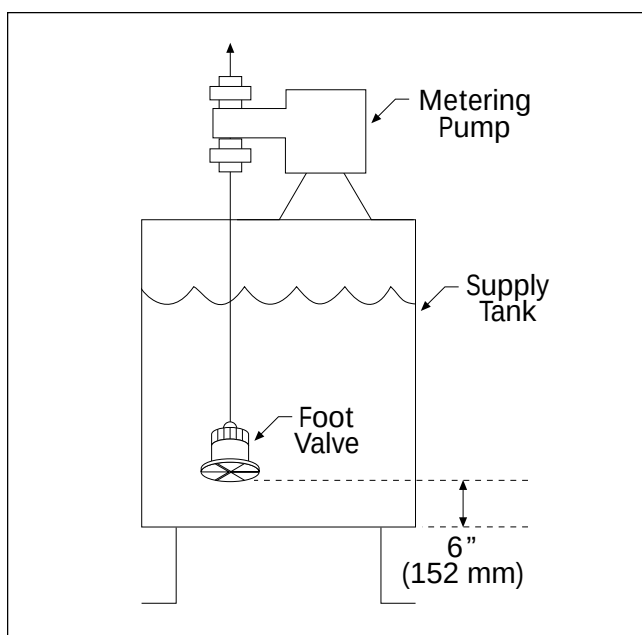

Figure 6: Suction Lift Installation
- Series G Pumps are designed to operate with process liquid supplied at or above atmospheric pressure. Although these pumps can move liquids supplied at less than atmospheric pressure, in these negative pressure applications it is important that all connections be absolutely drip free and vacuum tight, and that a foot valve be installed at the bottom of the suction line (see Figure 6).